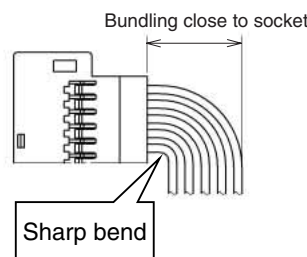

Fig. 3-2
- \* When bundling at the distance less than the recommended 20 mm, it is critical to avoid sharp bend radius (Fig. 3-2) or apply stretching or twisting forces (Fig. 3-3)